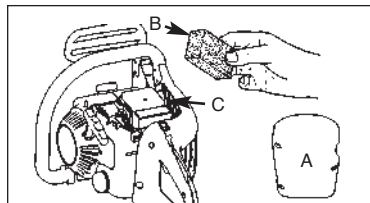

Fig. 15
1. Remove the top cover (A) by loosening the cover retaining screws. Cover will lift off.
2. Lift the air filter (B) out of air-box (C) (Fig. 15).